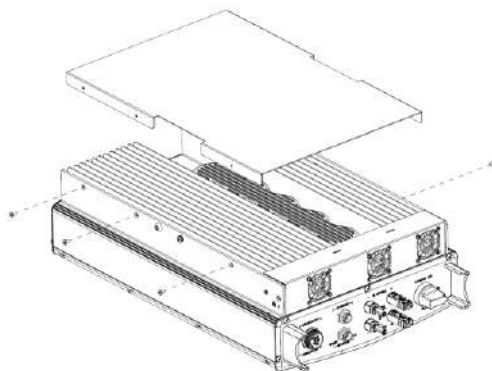

Fig 5.1 Disassemble the cooling bin
- (1) Disconnect the connection on input and output side;
- (2) Wait for ten minutes;
- (3) Disassemble the inverter in the same process with the installation procedures in section 4, but in reverse order;
- (4) Remove the screws and covers of cooling bin or fan box, as shown in Figure 5.1 and 5.2